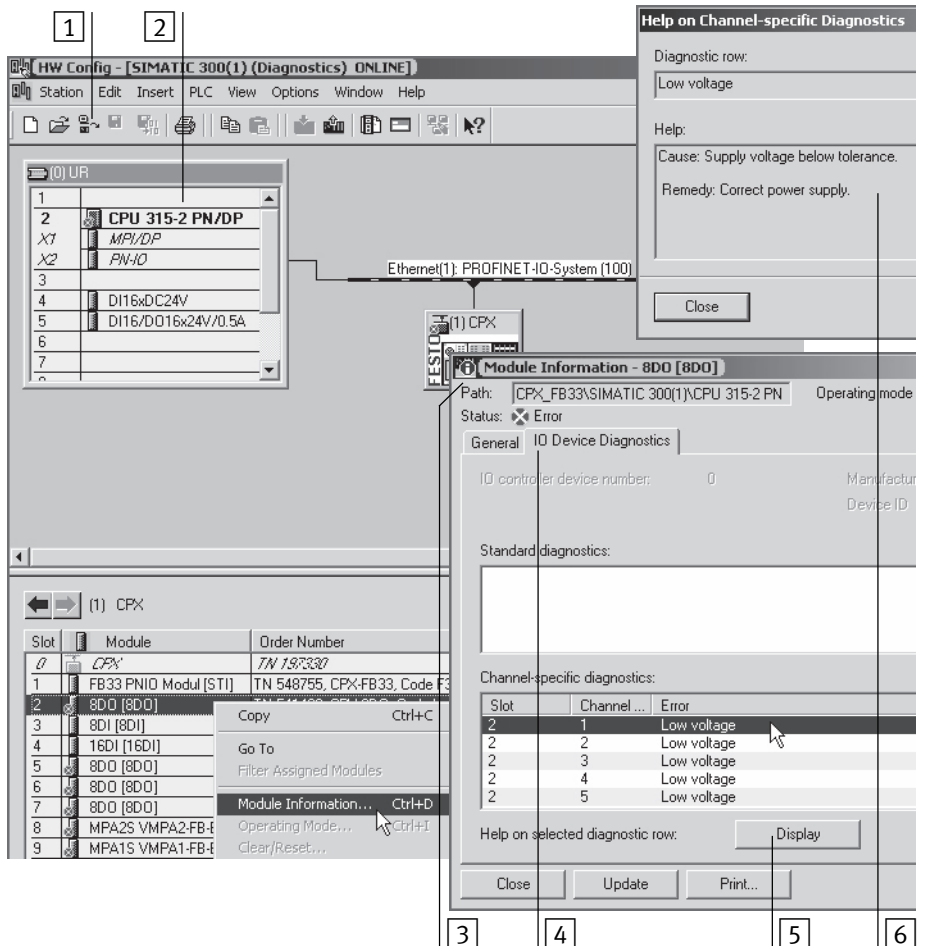

Fig. 3/2: Online diagnostics with Siemens STEP 7
2. Switch from offline to online (see Fig. 3/2 1).
Organisation blocks start in response to a malfunction or a device-related diagnosis and are used thereby for localisation of the source of the error, while function blocks read the diagnostics of the bus node and write to a data range of the user program (see example in Fig. 3/3).